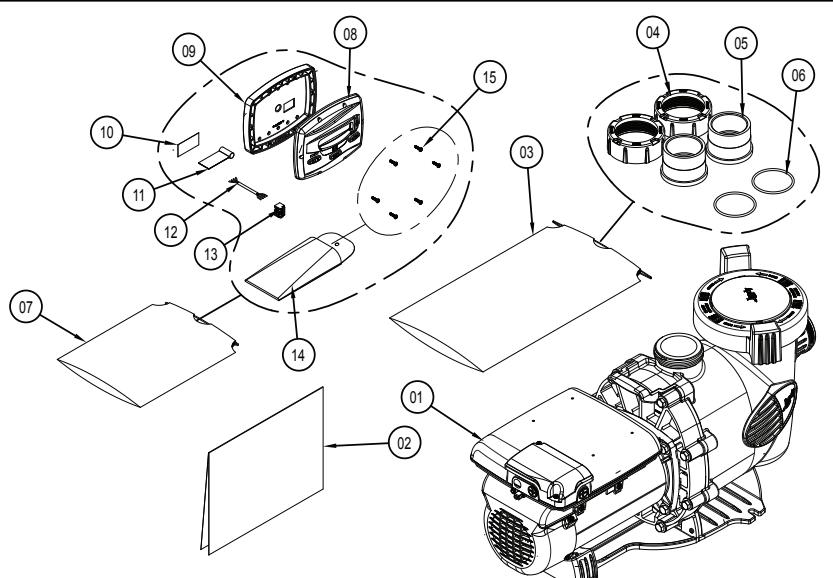

Figure 1. Carton Contents
Number of Suction Outlets Per Pump - Provide at least two (2) hydraulically-balanced main drains, with covers, as suction outlets for each circulating pump suction line. The centers of the main drains (suction outlets) on any one (1) suction line must be at least three (3) feet apart, center to center. See Figure 1.
The system **must** be built to include at least two (2) suction outlets (drains) connected to the pump whenever the pump is running. However, if two (2) main drains run into a single suction line, the single suction line may be equipped with a valve that will shut off both main drains from the pump. The system shall be constructed such that it shall not allow for separate or independent shutoff or isolation of each drain. See Figure 1.
2. Inspect the contents of the carton and verify that all parts are included. See "Figure 1. Carton Contents".